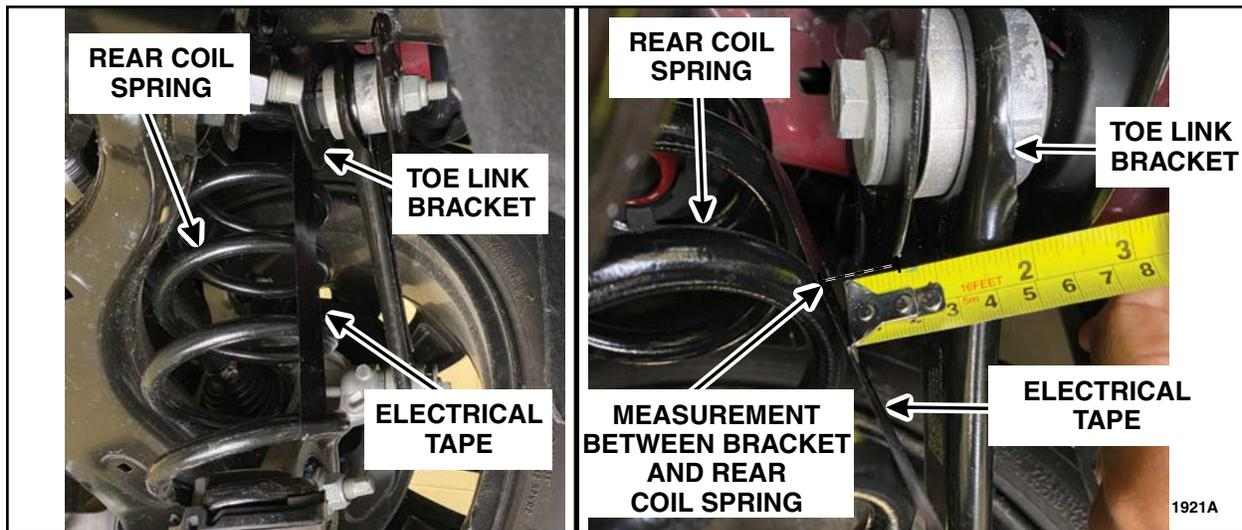

FIGURE 2
4. Measure the gap between the rear coil spring and toe link bracket, to aid in getting a flat surface you can use electrical tape stretched across the coils. See Figure 2.